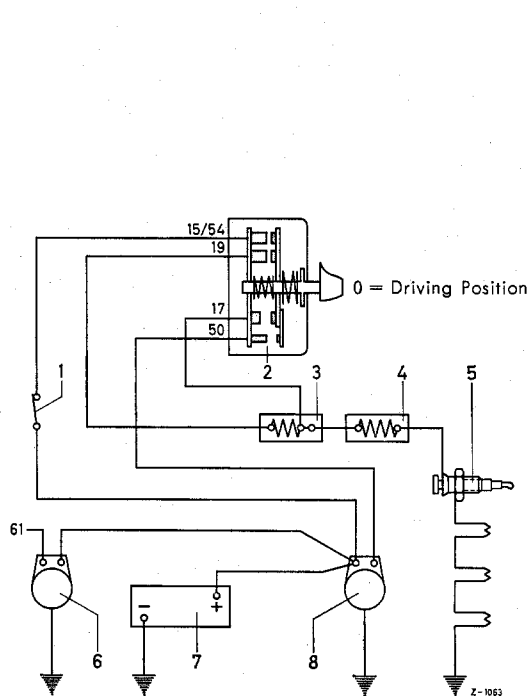

Figure 15-33/1
The Figure 15-33/1 shows the electrical wiring diagram of the individual parts participating in the starting procedure. In this wiring diagram the glow starter and stop switch is shown in driving position (0).